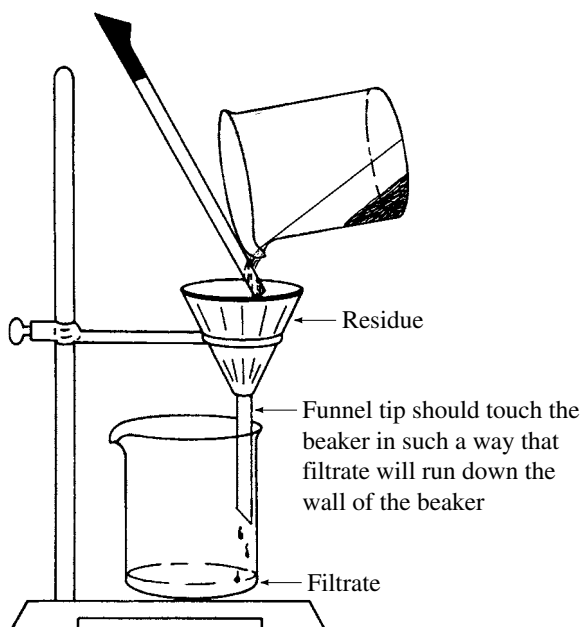

Figure 3.4
4. *Filtration*. This separates a solid from a liquid through the use of a porous material as a filter. Paper, charcoal, or sand can serve as a filter. These materials allow the liquid to pass through but not the solid (see Figure 3.4 in the **Procedure** section).
6. Weigh a second clean, dry 150-mL beaker with 2 or 3 boiling stones, to the nearest 0.001 g (6).
7. Assemble the apparatus for gravity filtration as shown in Figure 3.4.